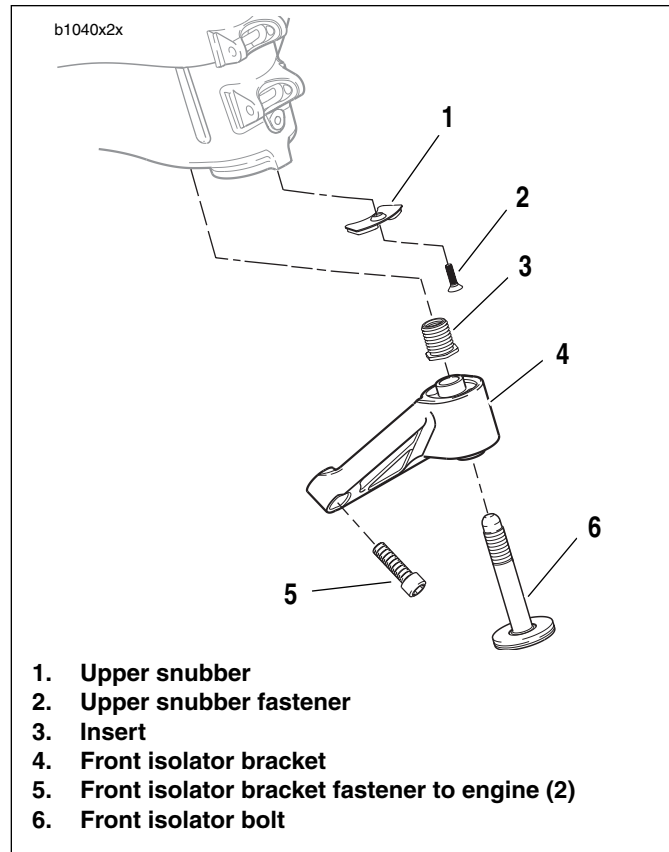

Figure 2-89. Front Isolator
3. See Figure 2-89. Remove front isolator bolt (6).
4. Remove front isolator mount fasteners (5).
5. Remove front isolator bracket (4).
6. Remove upper snubber fastener (2) and remove upper snubber (1).
See Figure 2-89. If the threaded insert (3) is damaged and needs to be replaced, install new insert with **LOCTITE 272 (red)** and tighten to 59-61 ft-lbs (80-82.7 Nm).
7. See Figure 2-89. Install upper snubber (1) tightening snubber fastener (2) to 12-36 in-lbs (1-4 Nm).
8. See Figure 2-89. Use **LOCTITE 272 (red)** on front isolator bracket (4) and loosely install to front isolator bracket.
9. Tighten fasteners (5) to 49-51 ft-lbs (66-69 Nm).